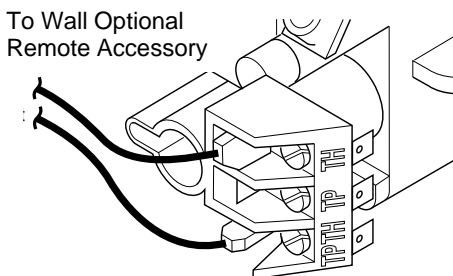

Figure 41 - Control Valve Terminals
1. Connect one terminal of 25 ft. wire for the wall switch to the TPTH terminal on the valve. Connect remaining wire terminal to the TH terminal on the valve. Make sure that the wire terminals are in the positions on the unit as pictured in Figure 41, page 21. If wires are not connected as shown the switch will not work.
6. Connect wires from receiver to TH and TPTH on the valve (see Figure 41).